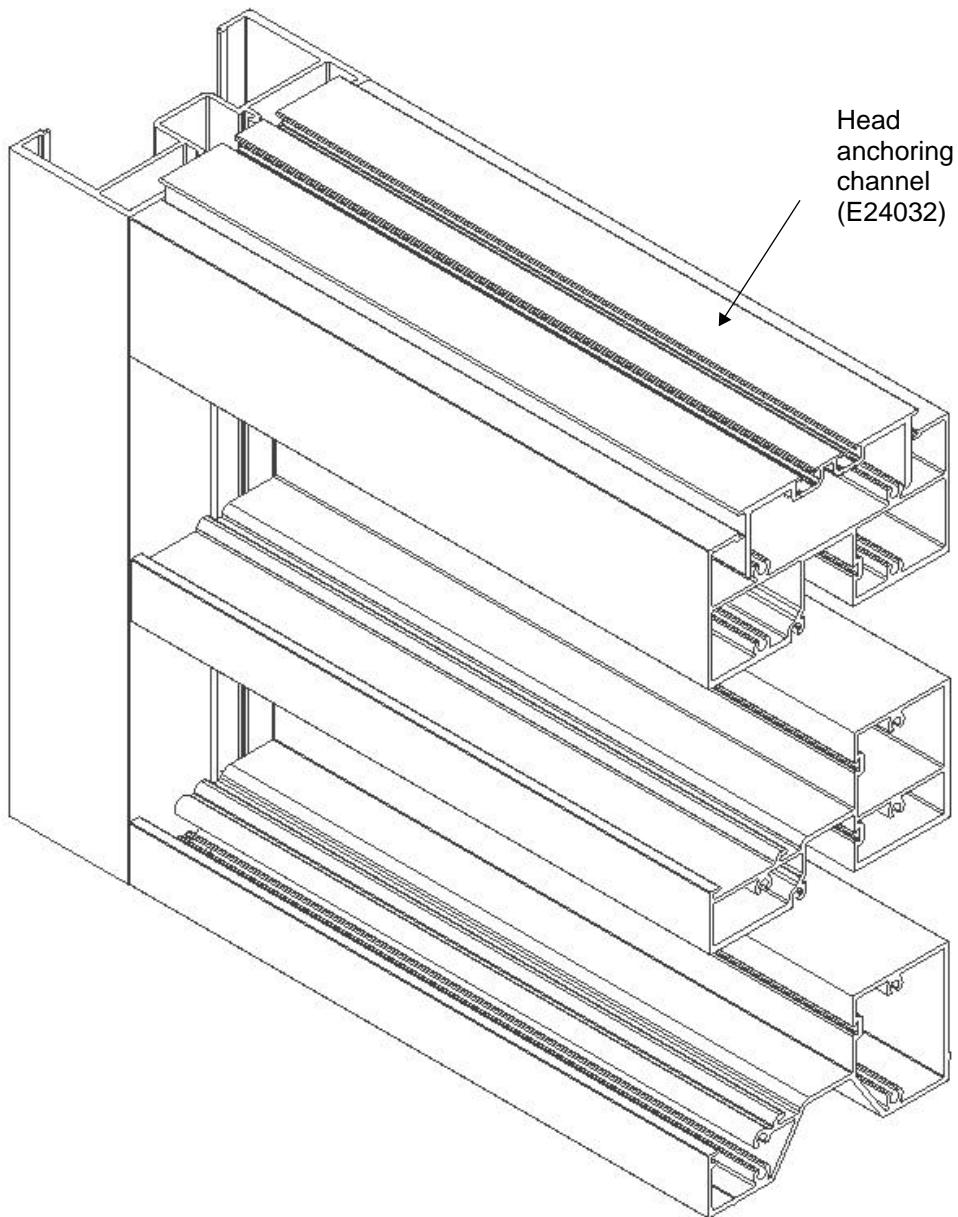

Figure 7: Attach a head anchoring channel (E24032) to the head horizontal, if desired.
- If desired, attach a head anchoring channel (E24032) to the head horizontal, as shown in Figure 7.